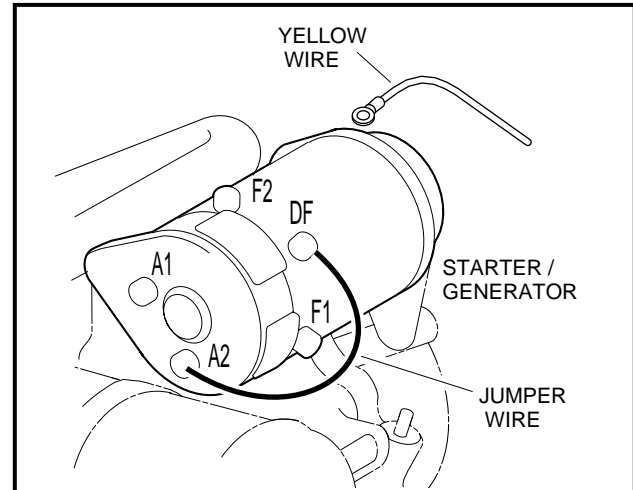

Figure 11-34 Jumper Wire Ground – DF to A2
3. Disconnect the yellow wire from the DF terminal on the starter/generator. Cover the connector on the yellow wire to make sure the yellow wire will not short to ground. Then, using a jumper wire, ground the DF terminal to the A2 terminal (**Figure 11-34, Page 11-30**).